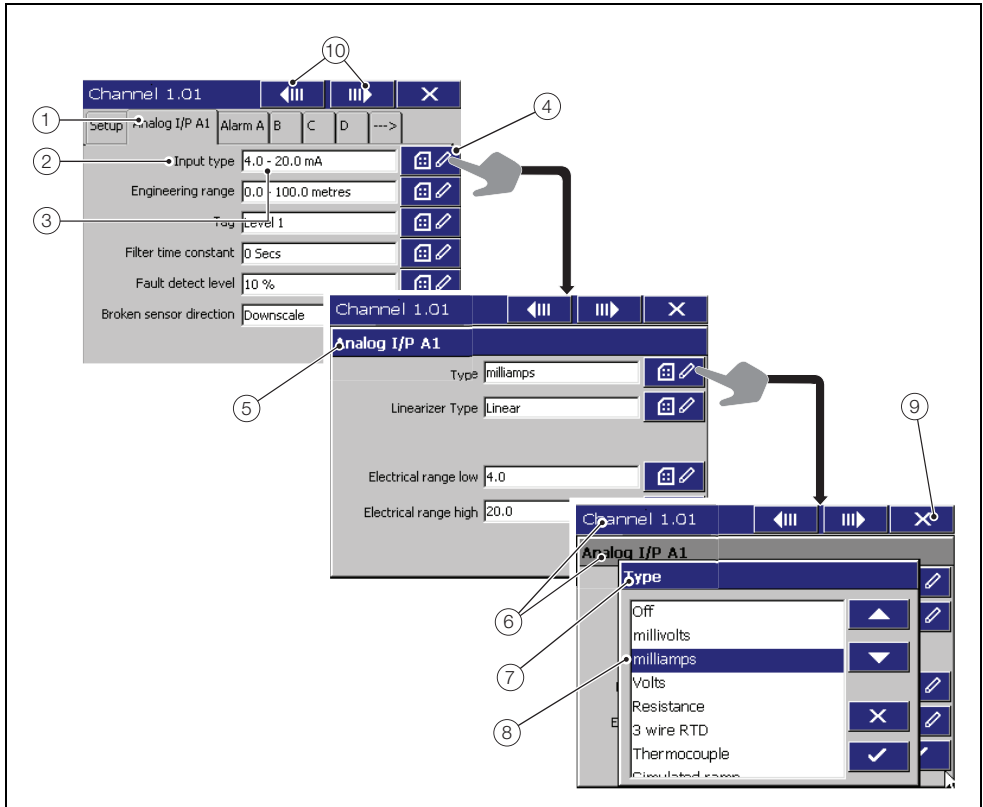

Fig. 7.5 Locating parameter settings
2. Make changes to parameters as detailed in Figs 7.5 and 7.6 (pages 64 and 65 respectively).
3. Make changes to parameters as detailed in Figs 7.5 and 7.6 (pages 64 and 65 respectively).
Referring to Fig. 7.5, parameters are located as follows: